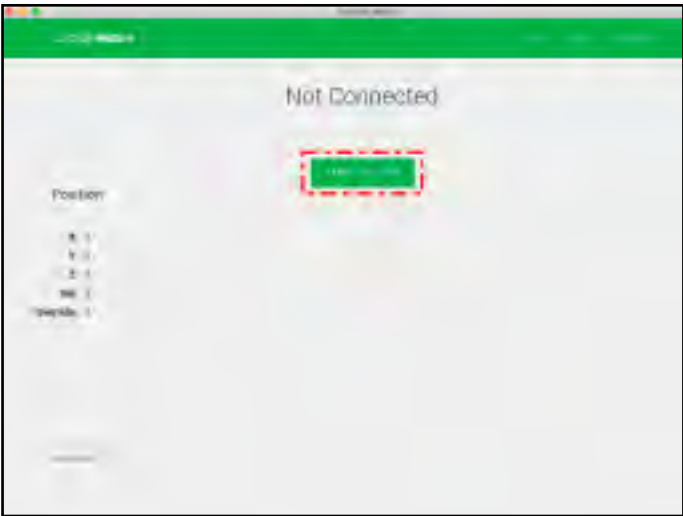

Figure 10-1
- 6. In Carbide Motion, click the **Connect to Cutter** button. See Fig. 10-1.